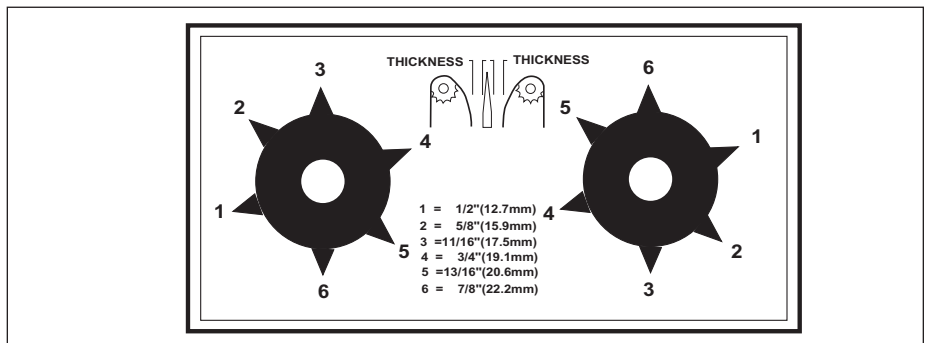

Figure 7. Bun Thickness Compression Knobs
1. Set the Bun Thickness Compression Knobs (Figure 7) to the desired settings.
NOTE: The Bun Thickness Compression Knobs (Figure 7) must be set to "6 & 6" prior to measuring or removing or reinstalling the Conveyor Belt Chains.